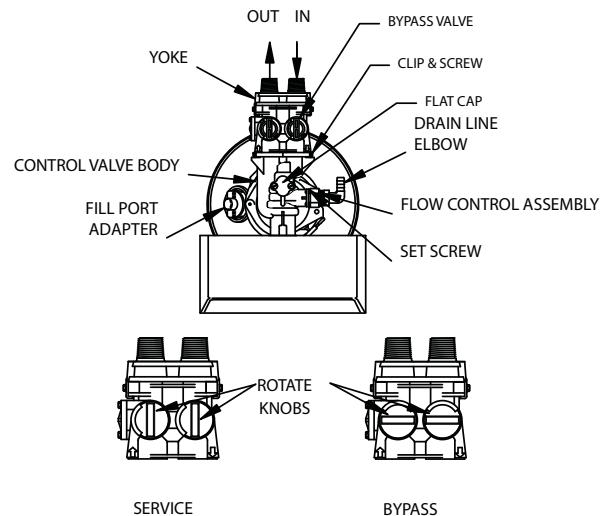

Figure 2 . INLET/OUTLET CONNECTIONS
- Assemble and attach bypass valve to the control valve. See Figure 2 if needed. Arrows can be viewed on the bypass valve to confirm the correct flow path. At this time make certain the bypass valve is in the bypass position and leave in that position until instructed to place in the service position. Refer to Figure 2 for proper operation.
Loosen set-screw and pull out drain line flow control (DLFC) assembly from valve body (see Figure 2). Unscrew drain line elbow from DLFC. Apply PTFE tape to threads. Reassemble to valve body, making certain DLFC assembly is fully inserted into valve body before tightening set-screw.